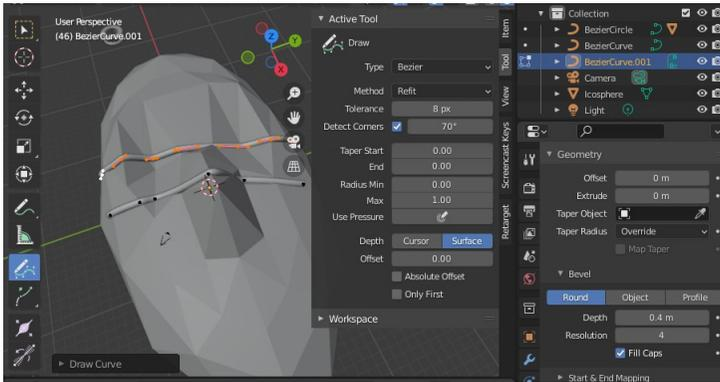

Figure 3-6 Setting Draw Curve onto a Surface
Curve and in the Object Data Properties tab under Geometry and Bevel (the right hand part of Figure 3-6) select **Round** for the Bevel geometry with Depth set to **0.4** and Fill Caps on.
- Each time you draw will create a new length of wire so you don't need the original three control points and can delete them. Switch to Edit mode, delete all the existing vertices then select the Draw tool from the Toolbar. To make the lines draw onto the surface of the icosphere you need to open the Sidebar and in the Tool tab set the Depth to **Surface**. Draw by LMB and dragging the mouse as in Figure 3-6.